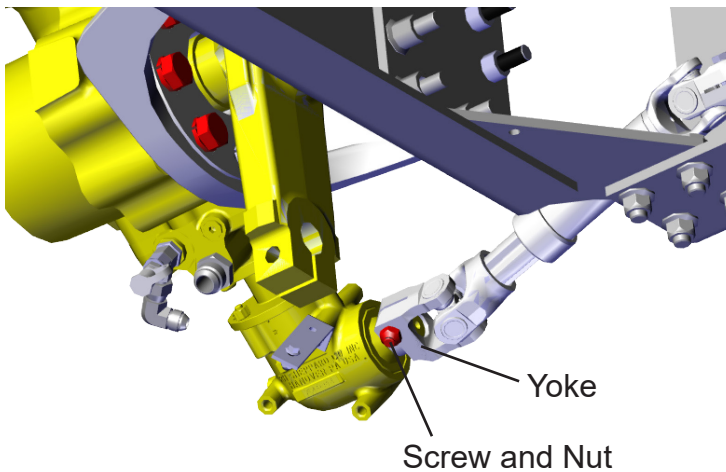

Figure 11
31. Reinstall yoke on steering gear output shaft. See Figure 11.
32. Install screw and nut removed in Step 8 in yoke on output shaft. See Figure 11. Final tighten to 75 ft. lbs.